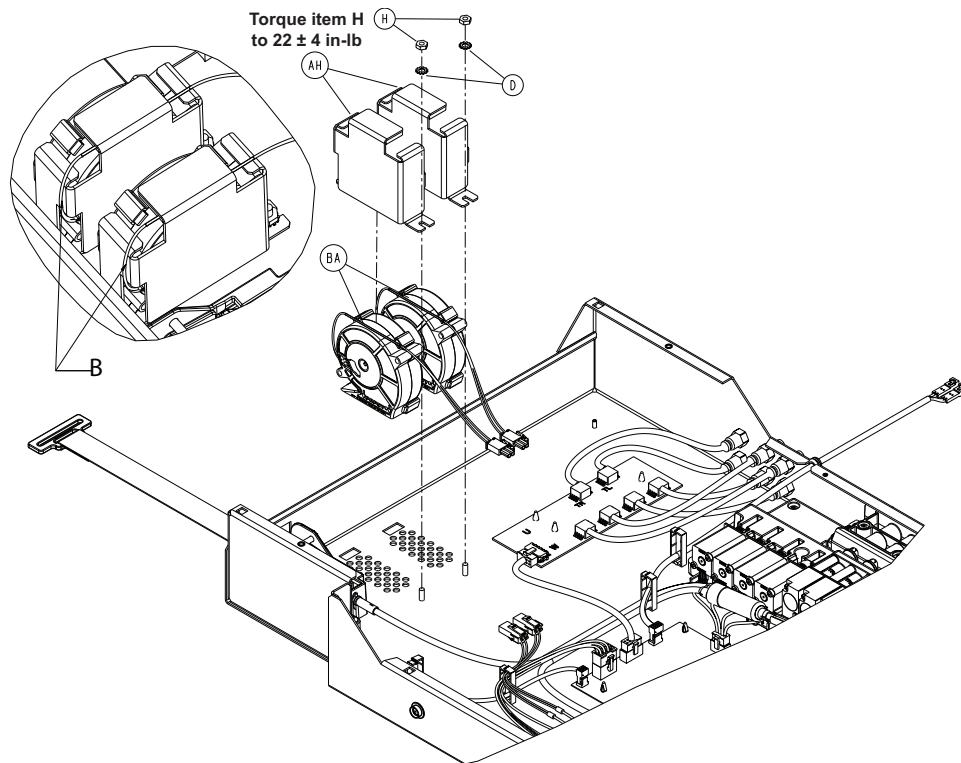

Figure 22 – Cooling fan and cage
3. Using a 5/16" nut driver, remove the nut (H) and the washer (D) that secure the fan cage to the foot box (Figure 22). Save the nut and the washer.